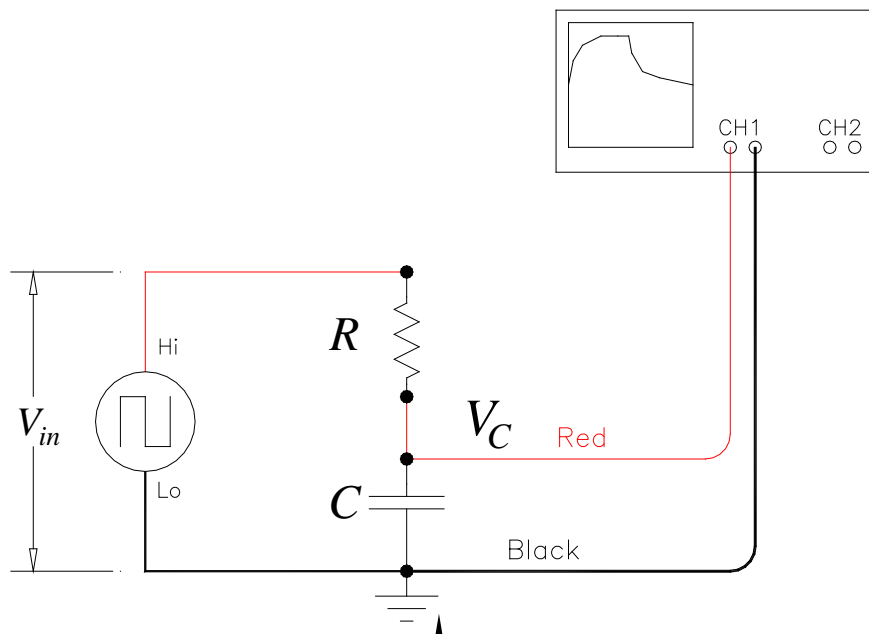

Figure 3 Diagram showing how to connect a resistor and capacitor in series to a function generator.
1) First turn on the function generator and oscilloscope and connect the 600W Output to CH1 of the oscilloscope. Set the frequency of the function generator to 500Hz. Push the yellow CH1 button on the oscilloscope and make sure Probe is set to 1X. Press the Trigger menu and set the trigger source to CH1 and the Slope to Falling. Adjust the amplitude of the function generator so that you have a 8.0V_{pp} (i.e., 8.0 volts peak-to-peak) square wave coming from the function generator with 0.0V DC-offset. (See step 12 in "Introduction to the Digital Oscilloscope" if you can't remember how to do this.) You may have to adjust the Sec./Div on the oscilloscope. Disconnect the oscilloscope from the function generator and build the circuit shown in Figure 3 using the 10kΩ resistor and the capacitor labeled C₁. Then connect the oscilloscope to the circuit
as shown in Figure 3. Make sure the binding posts on the component blocks are firmly screwed down.